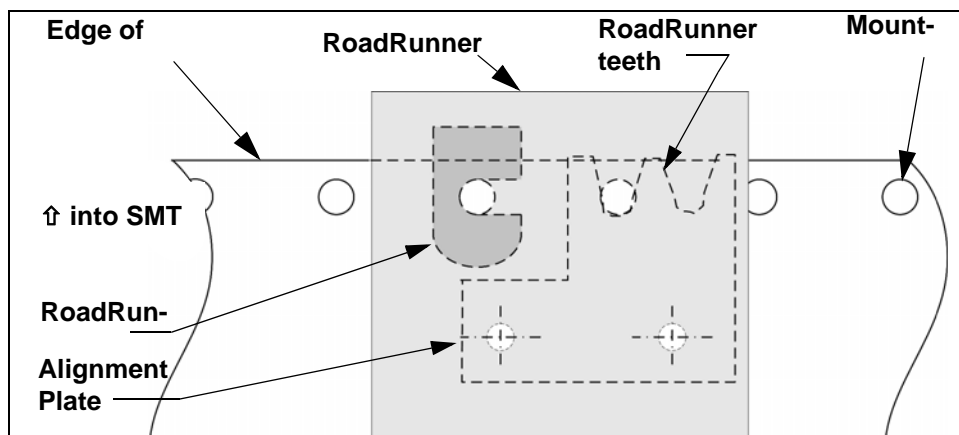
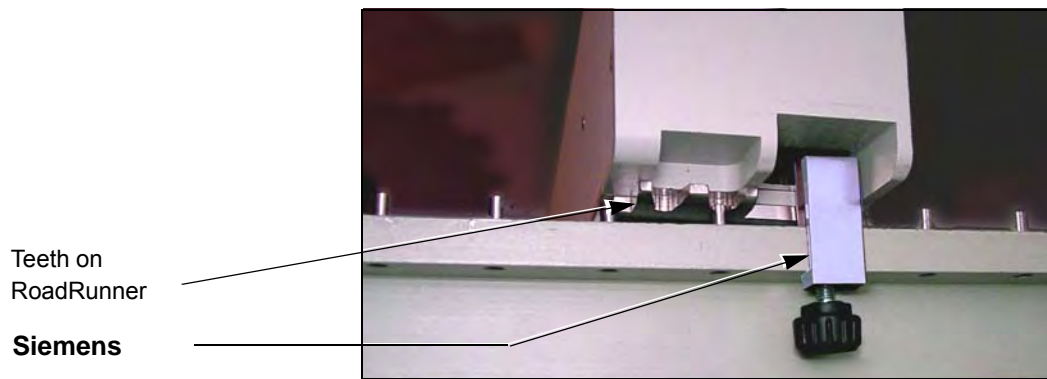

Figure 2-22—Hook Location Relative to standard RoadRunner Placement. (not XLF models). Top View
Figure 2-24—Early model Siemens RoadRunner Mounted onto the SMT Feeder Table [Siemens]
3. Slide RoadRunner under the hook so that the teeth engage the pin next to the hook as shown in Figure 2-22 and below in Figure 2-24.